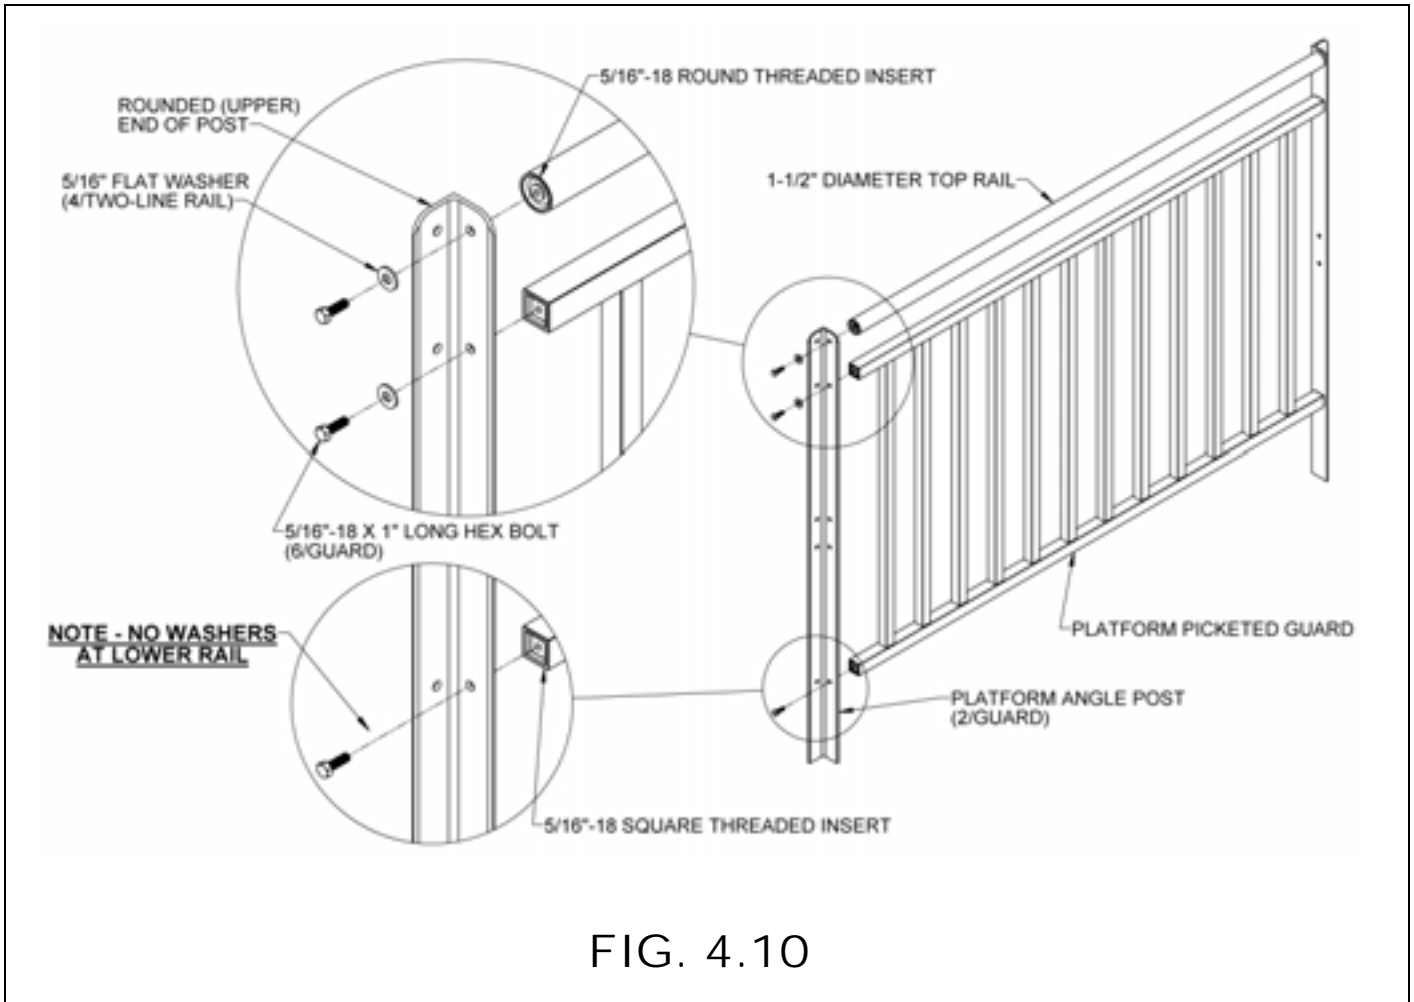

FIG. 4.10
- 4.6.5. Pre-assemble the platform picketed guard by inserting a 5/16"-18 x 1" long hex bolt through a 5/16" flat washer (use flat washer for the upper rail only; do not use a washer on the lowermost holes), the platform angle post, and into the 5/16"-18 square threaded inserts in the picketed guard (FIG. 4.10).